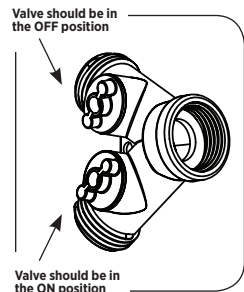

FIGURE 2
10. Ensure that the valve on the leg of the Y-connector that supplies the Rinse-o-matic with water is on and that the valve on the opposite leg is off (See Figure 2).